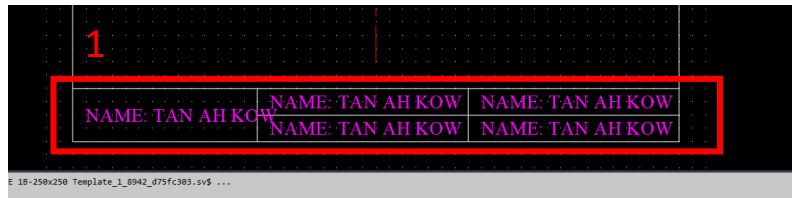

Fig 15
- v. Continue **placing the text to the other boxes** placing them 5mm away from the vertical left edge of each box **(1)**. See Fig 15.